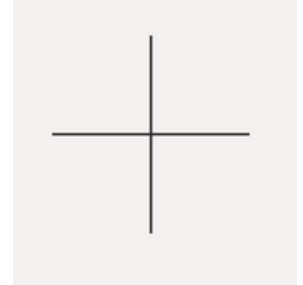

Fig. 1
- Measure and mark the centre point of the room using chalk lines. **(Fig. 1)**